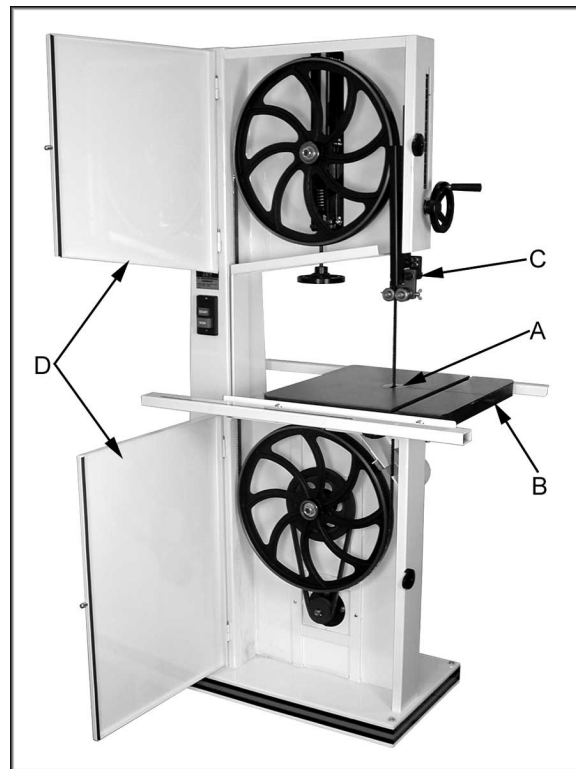

Figure 16
2. Remove the table insert (A, Figure 16), and table pin (B, Figure 16).
4. Loosen socket head cap screw (C, Figure 16) and slide the bearing assembly back as far as it will go.
5. Open both wheel covers (D, Figure 16).